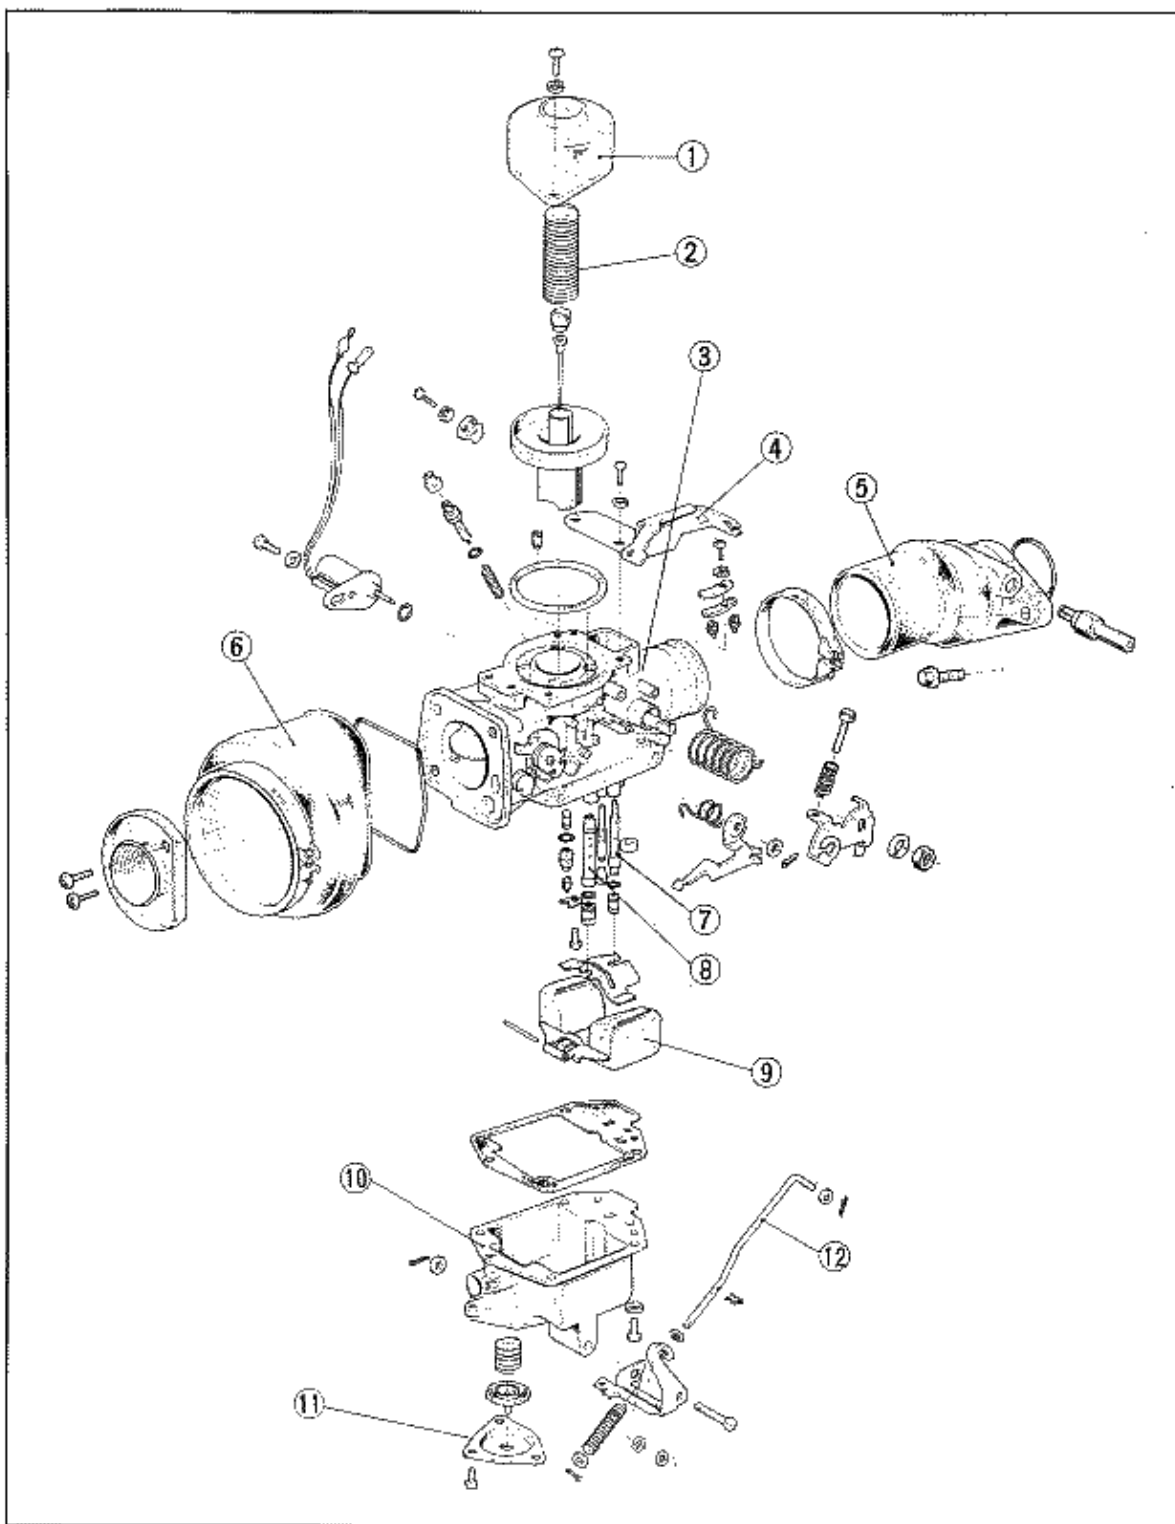

Fig. 8-1 ① Carburetor Cap ⑤ Intake Manifold ⑨ Carburetor Float
4. Remove the intake manifold clamp and remove the carburetor assembly by referring to Fig. 8-1.